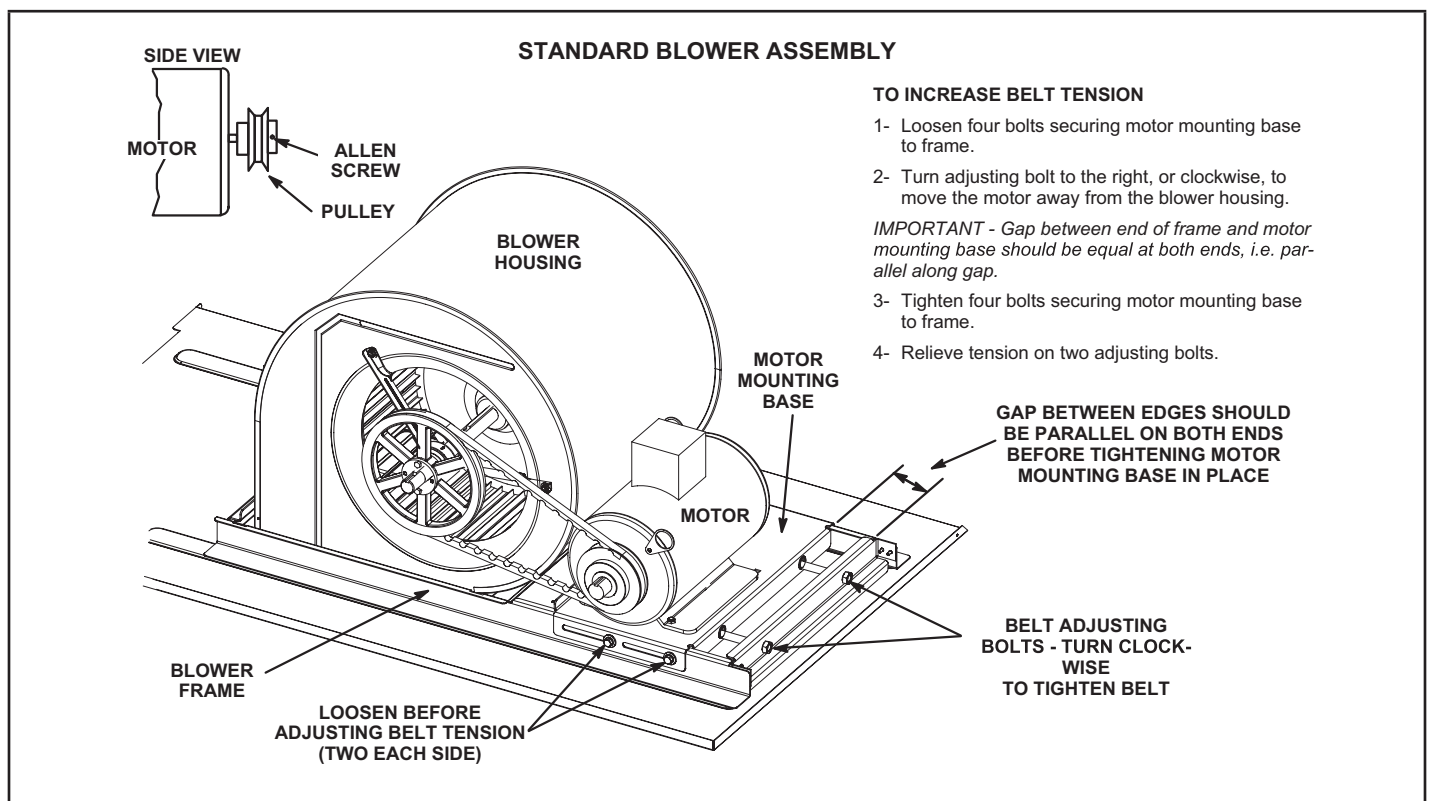

FIGURE 7
The blower assembly is secured to a sliding frame which allows the blower motor to be pulled out of the unit. See FIGURE 7.
- 5 - The blower RPM can be adjusted at the motor pulley. Loosen Allen screw and turn adjustable pulley clockwise to increase CFM. Turn counterclockwise to decrease CFM. See FIGURE 7. Do not exceed minimum and maximum number of pulley turns as shown in TABLE 6.
- 1 - Loosen four bolts securing motor base to mounting frame. See FIGURE 7.